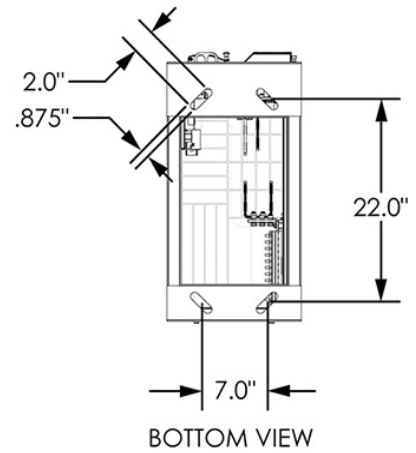

Figure 2. Rack Footprint
- Step 2. Measuring the distance between the four slotted mounting locations found on the base of the rack, mark and drill holes into desired concrete location for rack placement (see Figure 2).